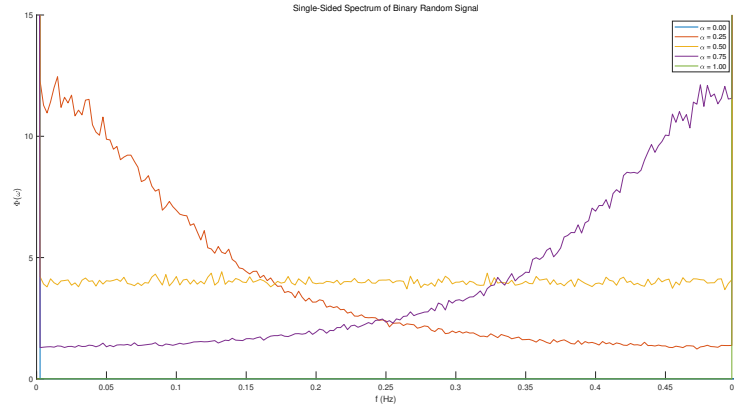
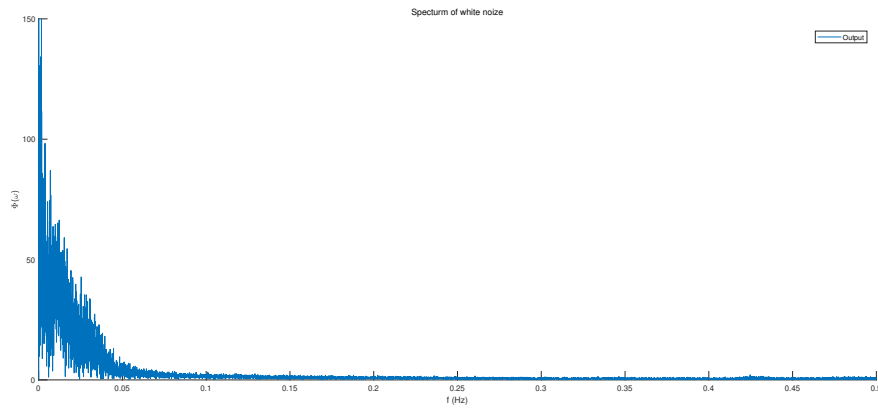

Figure 1: Spectrum of binary random signal.
Figure 4: Working region.
- Plot for the spectrum of the binary random signal for the required values of α is shown in Fig. 1.
- The binary random signal we choose have the similar output spectrum as the one of the white noises, which can be seen from Fig. 1 and Fig. 4